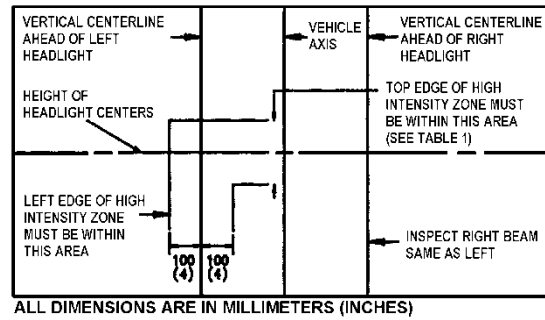

FIGURE 98: AIM INSPECTION LIMITS FOR LOWER-BEAM HEADLAMPS 06506
- The inspection limits in the vertical direction for low-beam headlamps or the low beam of a dual-beam headlamp, shall be as described in Table 1. In the horizontal direction, the left edge of the high-intensity zone shall be located from 10 cm (4 in) left to 10 cm (4 in) right of the vertical centerline of the beam. The viewing screen shall be located 7.6 m (25 ft) in front of the vehicle (Figure 98).